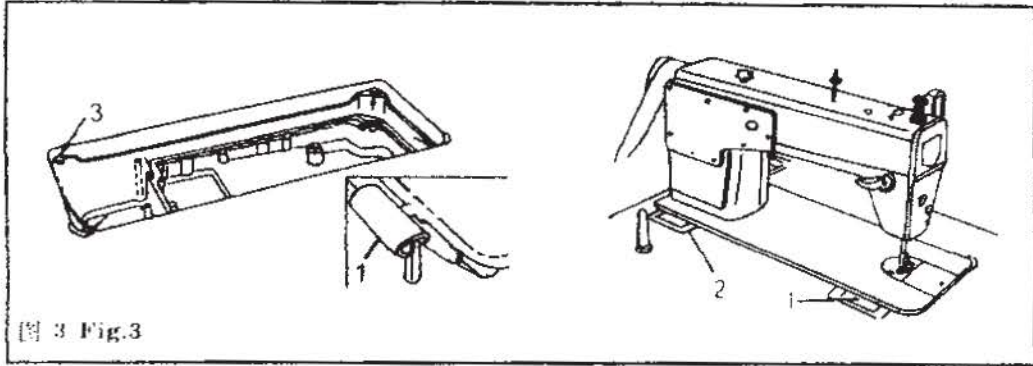

图 3 Fig.3
将机头连接钩 1 插入机壳底板孔内, 与台板上的机头连接钩座 2 相嵌合, 再将机头放到四只角的机头座垫 3 上。(图 3)
(3) Fitting machine head:
Put the machine head connecting hooks (1) into the bed holes to engage respectively two hinges (2) stated in the table, then place the machine on the four cushions (3). (Fig.3)